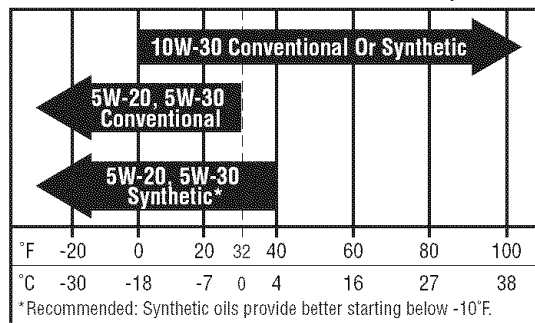
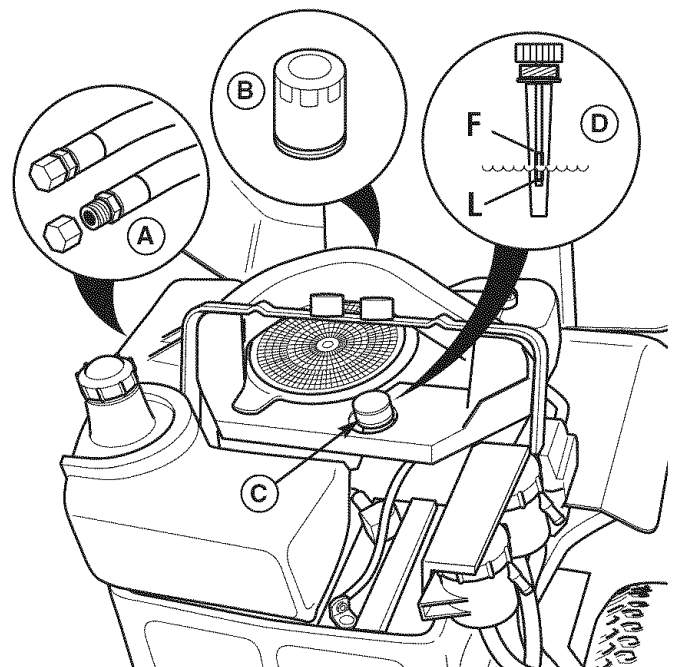

Figure 24. Recommended Engine Oil
Figure 25. Oil Change
2. Clean the area around the dip stick (C, Figure 25).
3. Remove the dip stick (C) and clean it with a paper towel.
4. Insert the dip stick back into the engine, but do not thread the cap back onto the tube (D).
5. Remove the dip stick and read the oil level. The oil level should be between the "F" and "L" marks (D). If not, add oil according to the oil recommendations chart (Figure 24).
1. Clean the area around the dip stick (C, Figure 25) and oil drain tube (A).
2. Remove the oil drain plug (A) from the end of the oil drain tube. Remove the dip stick (C). Allow ample time for complete drainage.
3. Reinstall the oil drain plug (A).
1. Clean the area around the dip stick (C, Figure 25) and oil drain (A).
2. Remove the oil drain plug (A) and dip stick (C). Allow ample time for complete drainage.
3. Remove the oil filter (B). Discard the filter.
7. Reinstall the oil drain plug (A).